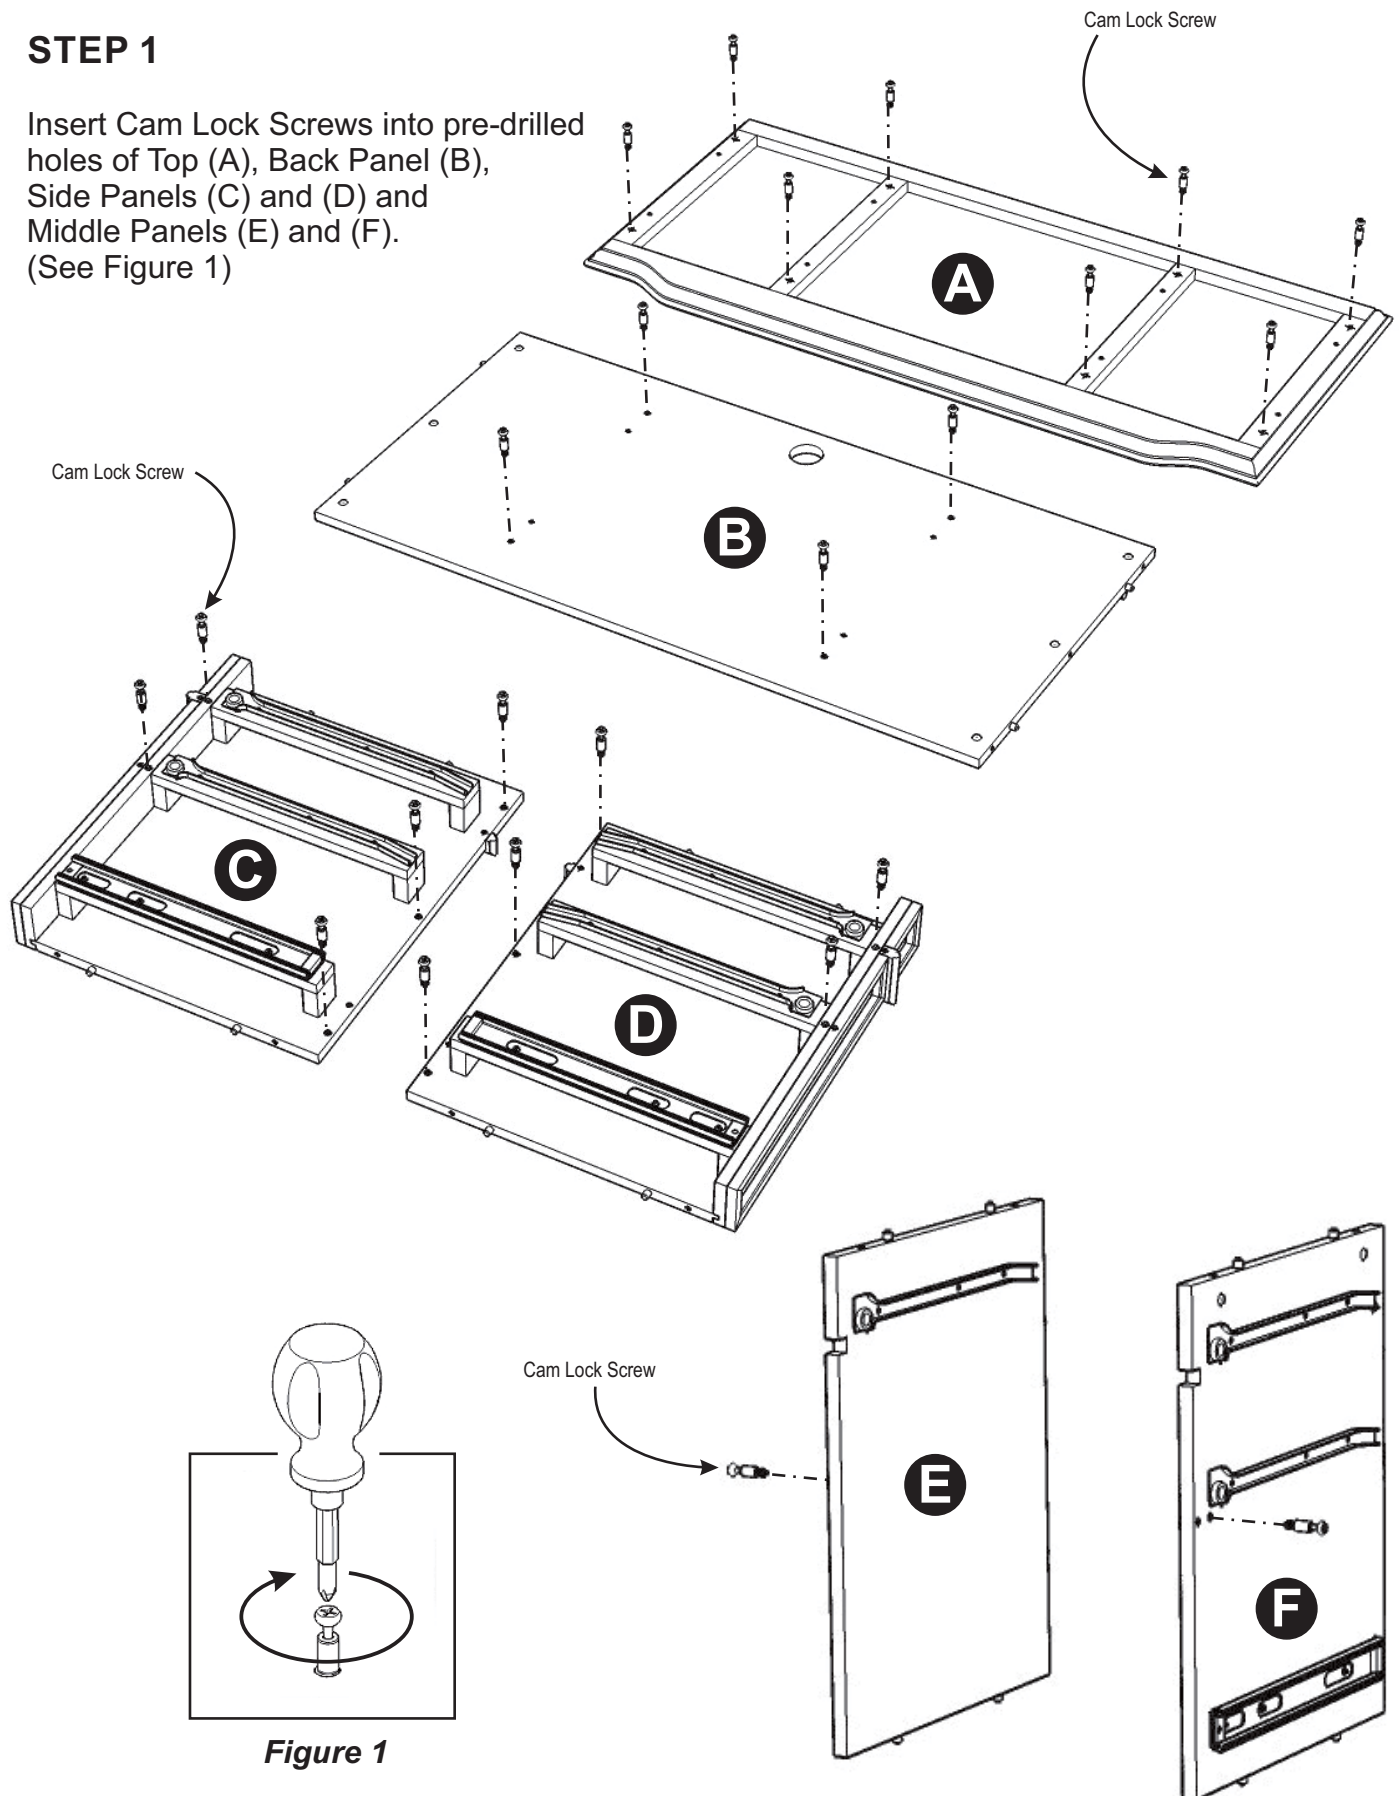

Figure 1
Insert Cam Lock Screws into pre-drilled holes of Top (A), Back Panel (B), Side Panels (C) and (D) and Middle Panels (E) and (F). (See Figure 1)